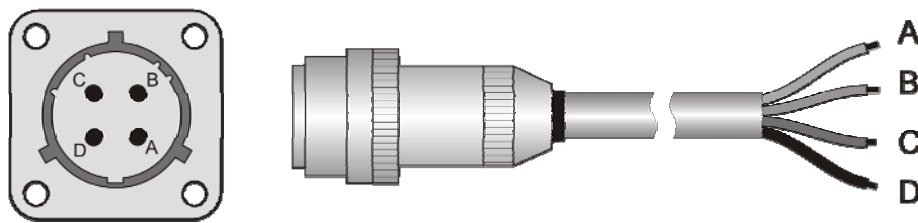

Fig.6
- The optional cable is terminated with a connector at one end and it is made of PTFE UV-proof. It is provided with 3 wires and a braided wire (shield). Cable colors and connector poles are matched as follow (figure 6):